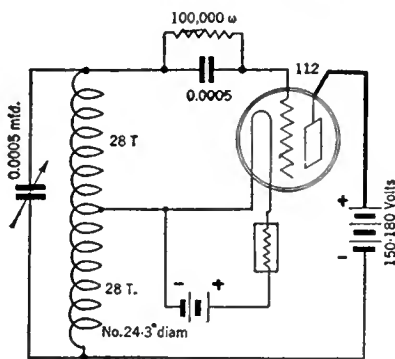

FIG. 1
1. A simple radio-frequency generator consisting of a vacuum tube connected to a coil and condenser as in Fig. 1. The plate potential of 150-180 volts may be supplied by a standard B-power unit.